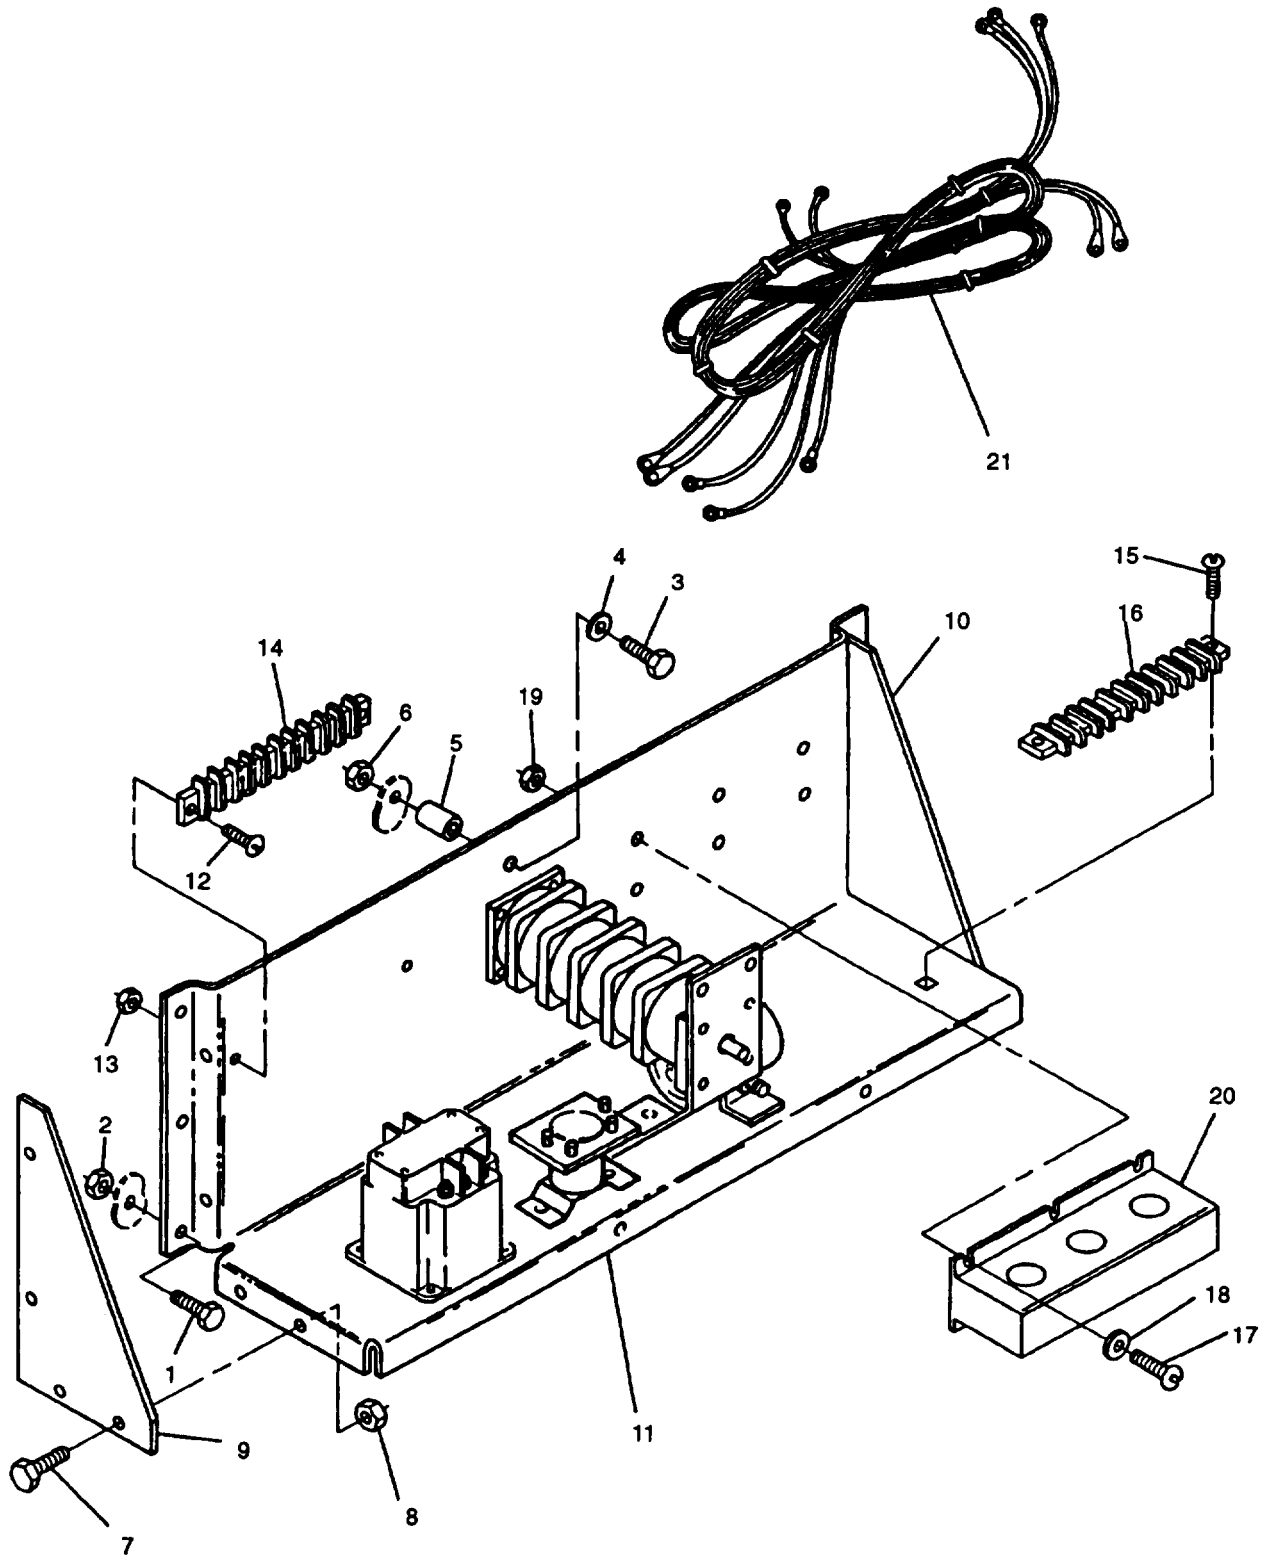

FIGURE 4-11. Output Box Assembly
- o. Tag and disconnect main generator leads from terminal board (16, FIGURE 4-11).
- p. Remove bolts (1) and (3), nuts (2) and (6), washer (4), spacer (5), and output box assembly from generator set. The assembly includes the output box tray (11), and side panels (9) and (10).
- q. Remove bolts (7), nuts (8), and side panels (9) and (10) from output box tray.
- a. Install side panels (9 and 10, FIGURE 4-11) on output box tray (11) with bolts (7) and nuts (8).
- b. Install output box assembly on generator set with bolts (1) and (3), washer (4), spacer (5), and nuts (2) and (6).
- c. Connect main generator electrical leads to terminal board (16) as tagged and remove tags.
- n. Tag and disconnect main generator leads from rear side of terminal board (16, FIGURE 4-11).
- o. Remove screws (12) and nuts (13) securing terminal board (14) to output box assembly.
- p. Remove screws (15) securing terminal board (16) to output box assembly.
- q. Remove screws (17), washers (18), nuts (19), current transformer (20), and output box/engine harness (21) from output box assembly and generator set.
- a. Position output box/engine harness (21, FIGURE 4-11) in output box assembly and generator set.
- b. Install current transformer (20) with screws (17), washers (18), and nuts (19).
- c. Install terminal board (16) with screws (15).
- d. Install terminal board (14) with screws (12) and nuts (13).
- e. Connect main generator leads to rear side of terminal board (16) as tagged and remove tags.
- d. Tag and disconnect current transformer (20, FIGURE 4-11) electrical leads from secondary terminals.
- e. Tag and disconnect main power cables from front side of terminal board (16).
- a. Install current transformer (20, FIGURE 4-11) with screws (17), washers (18), and nuts (19).
- b. Wrap main power cables around current transformer (20) as noted on removal.
- c. Connect main power cables to front side of terminal board (16) and remove tags.
- d. Connect electrical leads to current transformer (20) secondary terminals and remove tags.